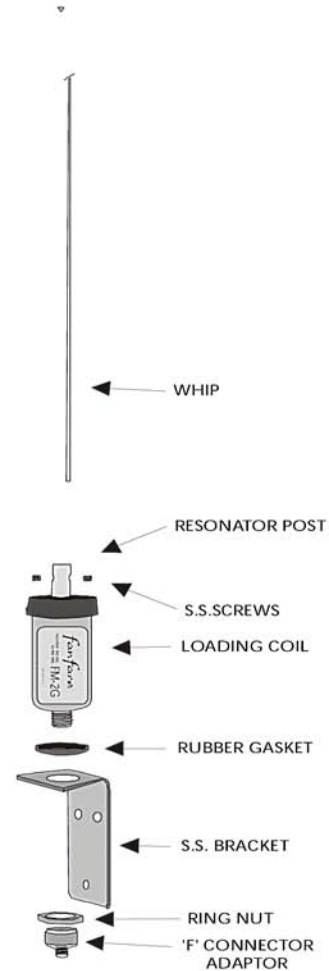

Fig. 1
**Step 2. Attach the stainless steel whip to the resonator post using the supplied Allen wrench (see Figure 1) to tighten the two screws that hold it in place.**
The FM-2G will arrive with the both the 'L' bracket and the Connector Adaptor loose in the same package as this instruction sheet. Referring to Fig.1, reinstall the 'L' bracket supplied as shown by first removing only the ring nut from the threaded portion at the base of the coil housing. Then slide the L bracket back onto the threaded portion as shown in the diagram. Reinstall the nut, tightening it against the bracket about a 3/4 turn past finger tight. Install the Connector Adaptor onto the threaded portion of the base connector. A little beyond finger tight is OK.